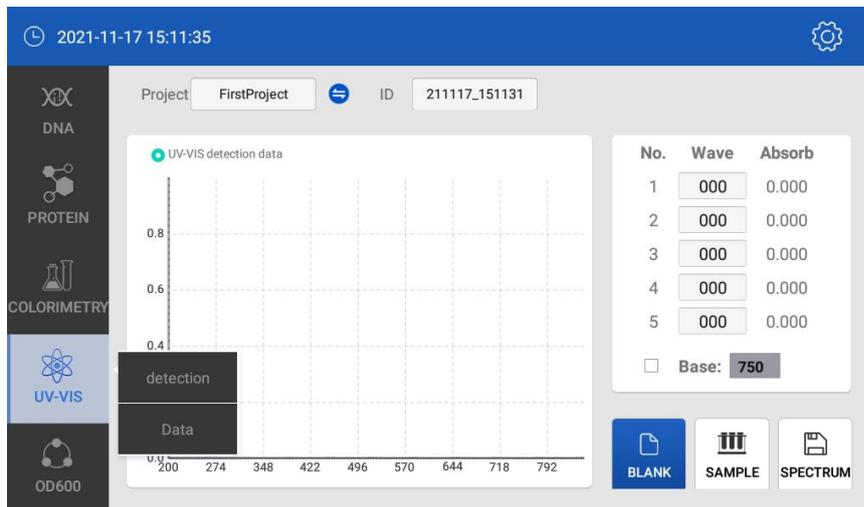

Fig 4.20 Uv-Vis measurement initial interface
- ② On the interface Uv-Vis, Fig 4.20, input the characteristic wavelength before measurement, absorbance will display accordingly.